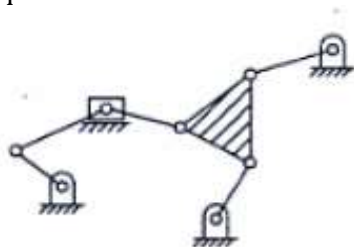

Fig.: 1
2. Determine the mobility of the mechanisms shown in figures 1 and 2 below using Kutzbach's criterion, Gruebler's criterion. Validate your answer using Loop equation.